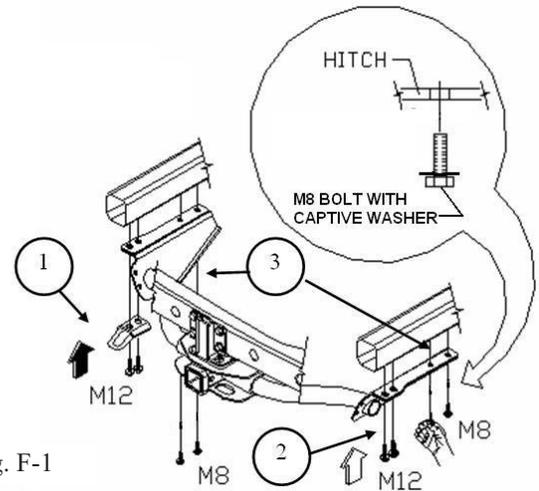

Fig. F-1
- ➔ 1. Reinstall tie-down bracket to hitch using two (2) M12 x 1.25x35 black bolts in driver side rear most frame locations. (Fig. F-1, 1)
- ➔ 2. Secure hitch to frame using two (2) M12 x 1.25x35 black bolts in passenger side rear most frame locations. (Fig. F-1, 2)
- ➔ 3. Hand start four (4) M8 x 1.25 x 25 black bolts with trapped washers in forward most frame locations. (Fig. F-1, 3)